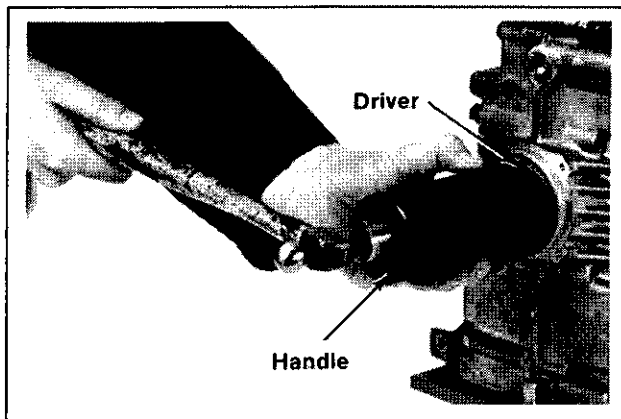

Figure 11-24. Installing Oil Seal Using Driver.
2. Using the #11795 handle and appropriate seal driver, install the front oil seal to a depth of  $1/32''$  ( $+3/64''$ ;  $-1/64''$ ). Refer to Figure 11-24.
6. Using the #11795 handle and appropriate seal driver, install the rear oil seal to a depth of 5/32" (+ 3/64"; -1/64"). Refer to Figure 11-24.